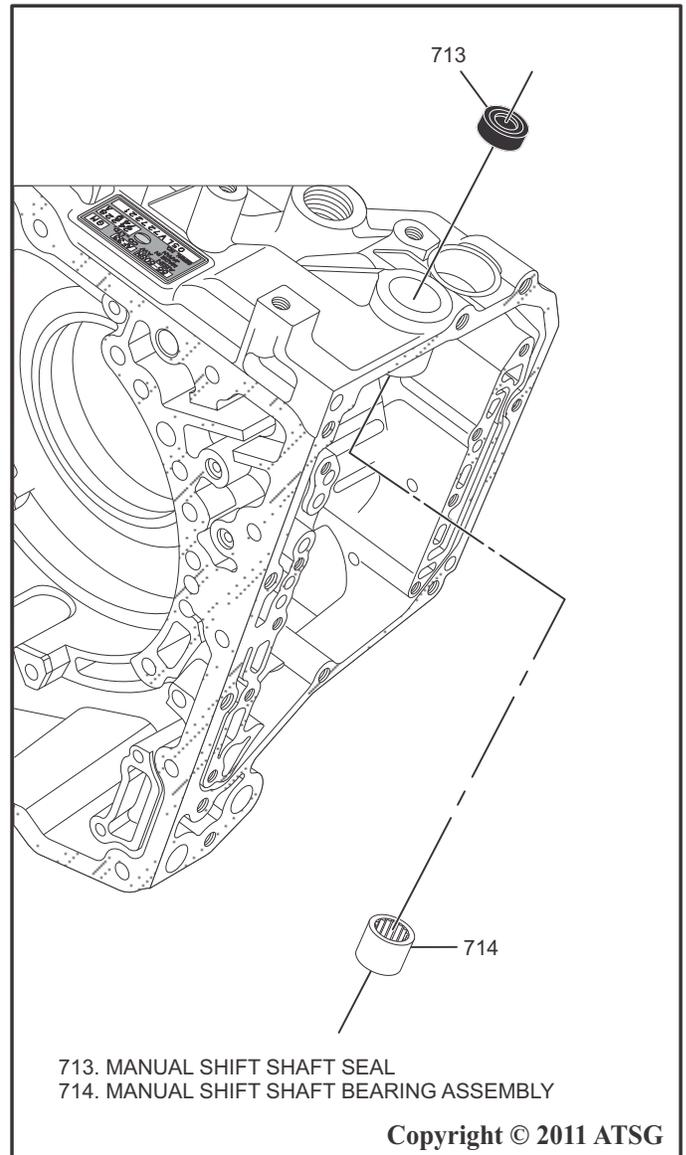

Figure 75
3. Using a screwdriver carefully pry upward and remove the manual shift shaft seal as shown in Figure 75.
4. Using SST J 45161 or other similar driver and a hammer, drive the manual shift shaft bearing assembly through the case bore and remove the bearing assembly as shown in Figure 75.